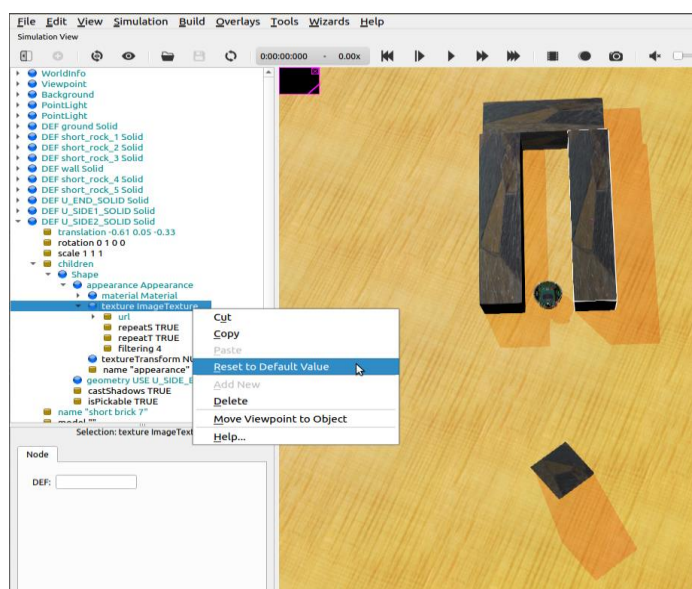

Figure 7: Reset to default shown in Webots environment.
- To remove the texture, select: DEF U\_{...}\_SOLID -> children -> Shape -> Appearance -> texture ImageTexture, and then right click and hit Reset to Default Value. *Figure 7* shows where this button is located.